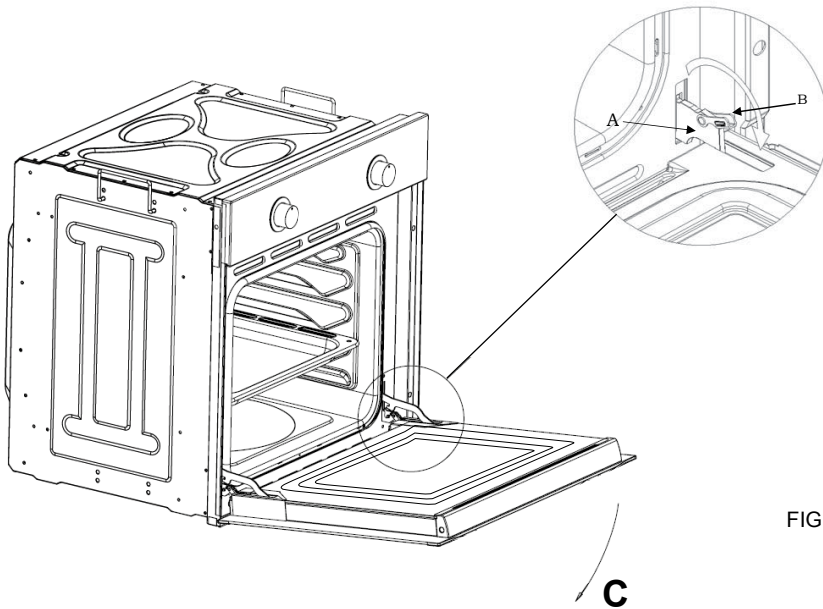

FIG.1
Removing the door from the oven (Fig.1)
- > Remember to turn the two moving links "B" used to engage the two hinges before closing the door (Fig.1).